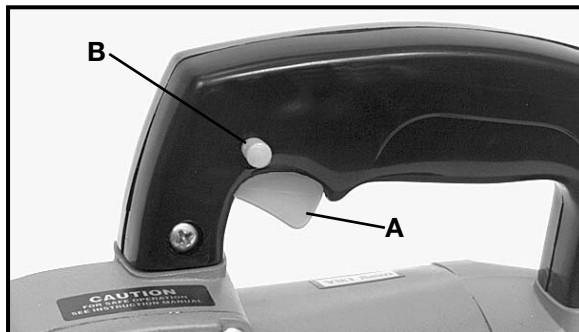

Fig. 2
2. Squeeze switch trigger (A) Fig. 2 to start motor. Release trigger to stop motor. This saw has a variable speed switch, as the switch trigger is squeezed, the speed of the saw blade increases.
3. Lock Button – A lock button (B) Fig. 2, is provided to keep the saw running at the fastest speed without holding the switch trigger “ON”. To lock the switch trigger on, squeeze the trigger as far as it will go and push in the lock button and release trigger.